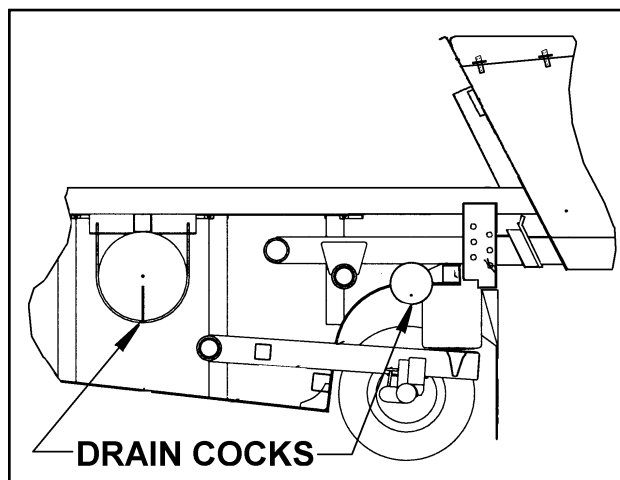

Figure 4-1 Drain Cock Locations
d. Drain air reservoir daily. A drain cock on the bottom of each air reservoir vents the tank to drain collected water and oil. If held open, air pressure in the tanks is relieved, causing the emergency or parking brakes to be applied (**See Figure 4-1**).